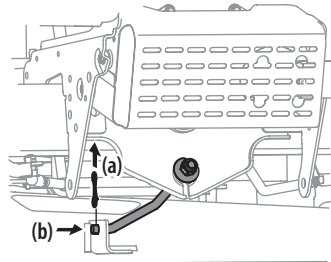

Figure 33
9. On 36", 42" and 46" decks, Remove the bow-tie pin (a) securing the deck stabilizer rod (b) to the deck. Slide the deck lift rod from the mounting weldment on the deck as seen in Figure 33.